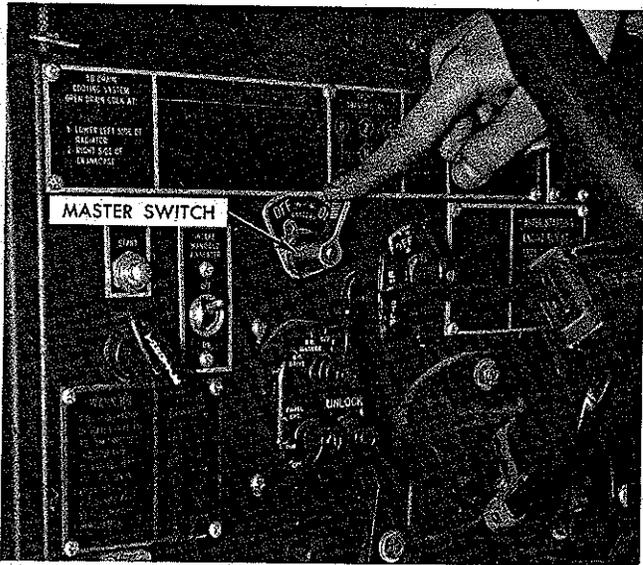

Figure 15
- (1) With the fuel pressure gage installed, turn on the vehicle master switch, Figure 15. This will activate the electric fuel supply pump located in